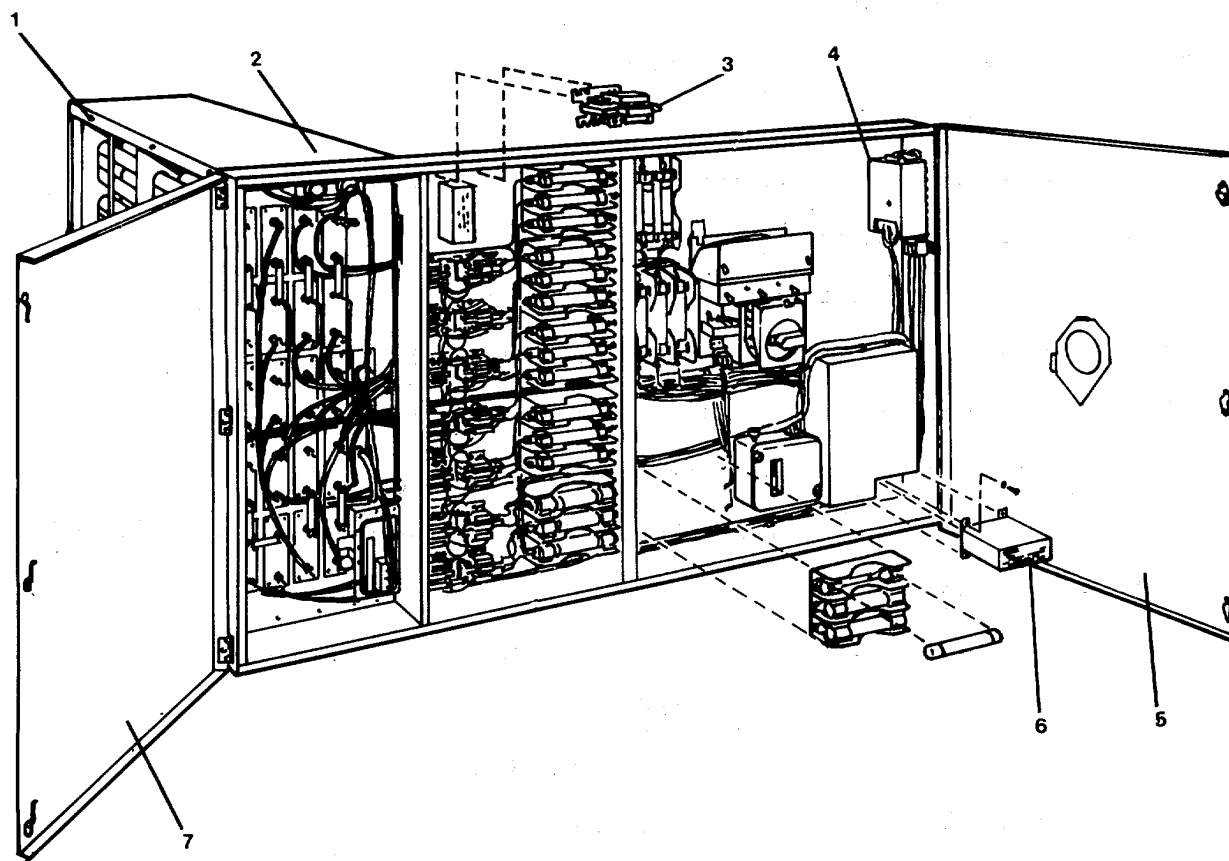
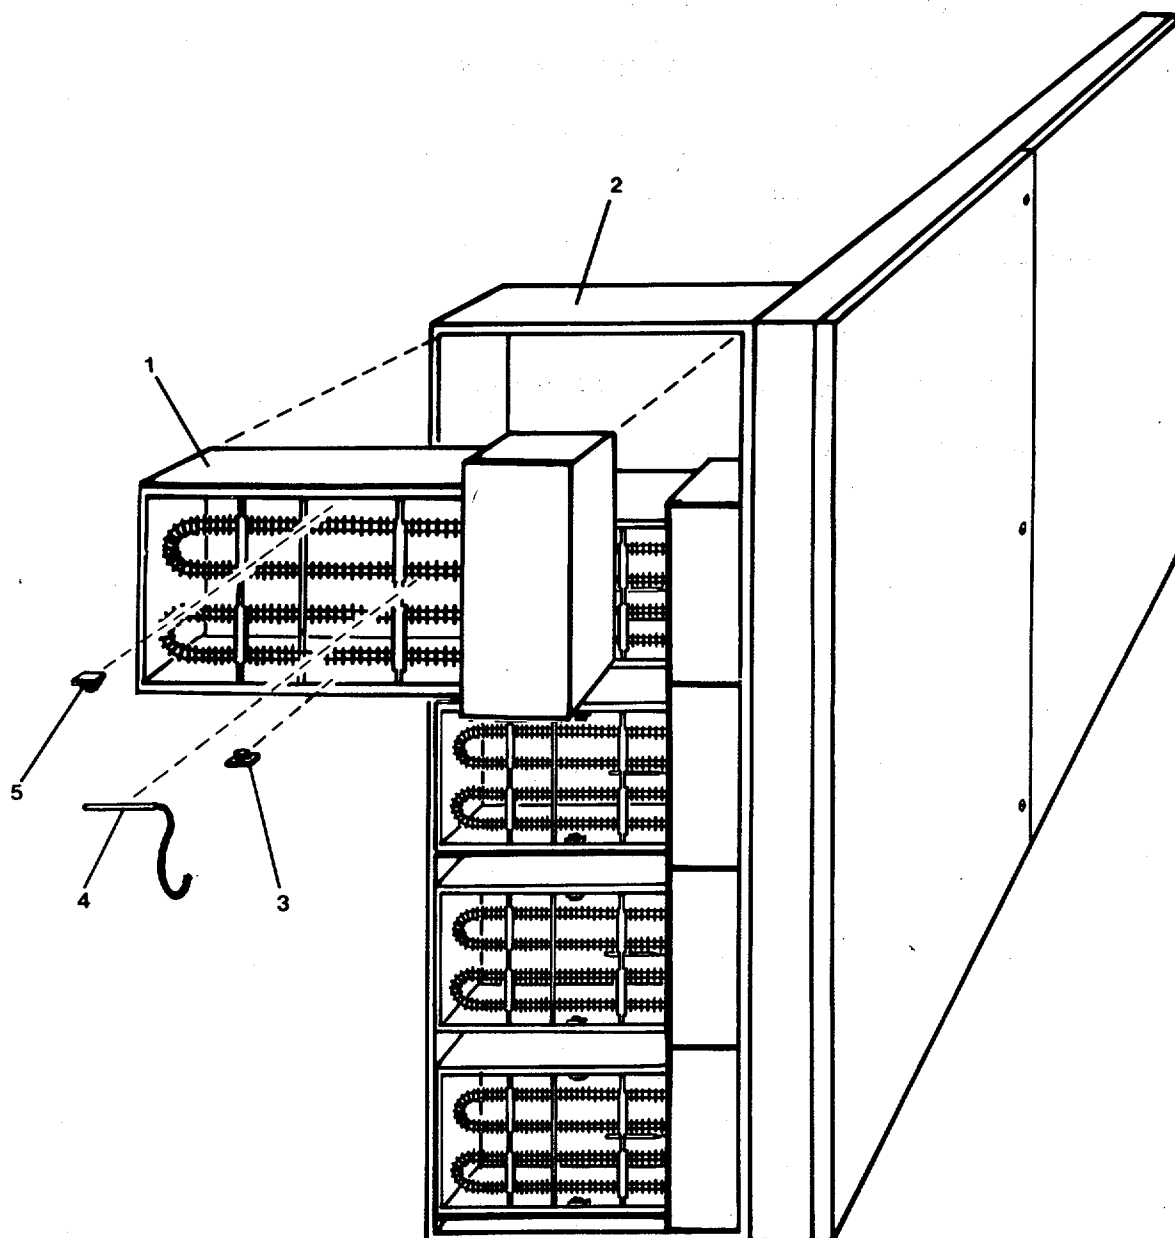

Figure 3-1. Duct Heater (DH #1).
FIGURE 3-2. Thermostatic Switches (DH #1).
- a. Open terminal box doors (5, 7, FIGURE 3-1).
- b. Tag and disconnect electrical power supply wiring to heater (2).
- c. Tag and disconnect thermostat wiring to the heater (2).
- e. Remove the mounting screws (1) holding heater to ducting.
- f. Slide the heater (2) from the ducting.
- c. Replace control transformer (6).
- (1) Tag and disconnect electrical wiring from transformer.
- (2) Remove transformer from terminal box.
- (3) Install new control transformer (6).
- (4) Connect electrical wiring to transformer terminals.
- d. Replace thermostatic switches (3, 4, 5, FIGURE 3-2):
- (1) Remove duct heater (removal step in this procedure).
- (2) Replace appropriate thermostatic switch in the heater (2) element box (1):
- (b) Remove appropriate switch (3, 4, or 5) from element box (1).
- e. Close terminal box doors (5, 7, FIGURE 3-1).
- a. Install heater (2, FIGURE 3-1) in ducting with mounting screws (1).
- b. Run power supply and thermostat wiring into terminal box on the heater (2).
- (1) Turn electrical power ON.
- (2) Start and run heater to check for proper operation.
- (3) Remove "Out of Service" tag from circuit.